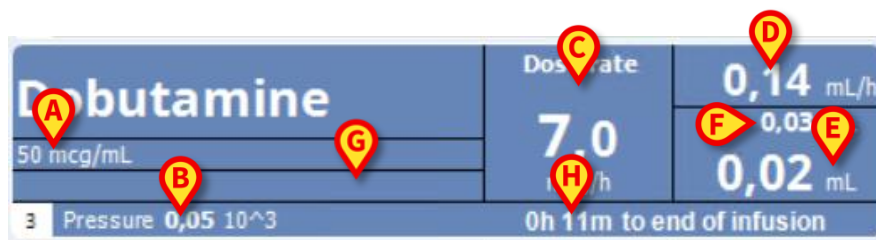

Fig 11
The box representing the pump (Fig 11) can display different kinds of data.
- drug concentration (Fig 11 **A**);
- circuit pressure (Fig 11 **B**); In the configuration a “pressure threshold” can be set up. When this threshold is exceeded the Pressure value is displayed in yellow.
- the dose rate (Fig 11 **C**); or the target dose when working in pharmacokinetic mode. In this case the “target” icon  /  is displayed as well.
- the volume rate (Fig 11 **D**);
- the total infused volume (Fig 11 **E**);
- volume remaining in the syringe (Fig 11 **F**).
- drug profile, if specified (Fig 11 **G**);
- the time remaining to the end of the infusion (Fig 11 **H**).